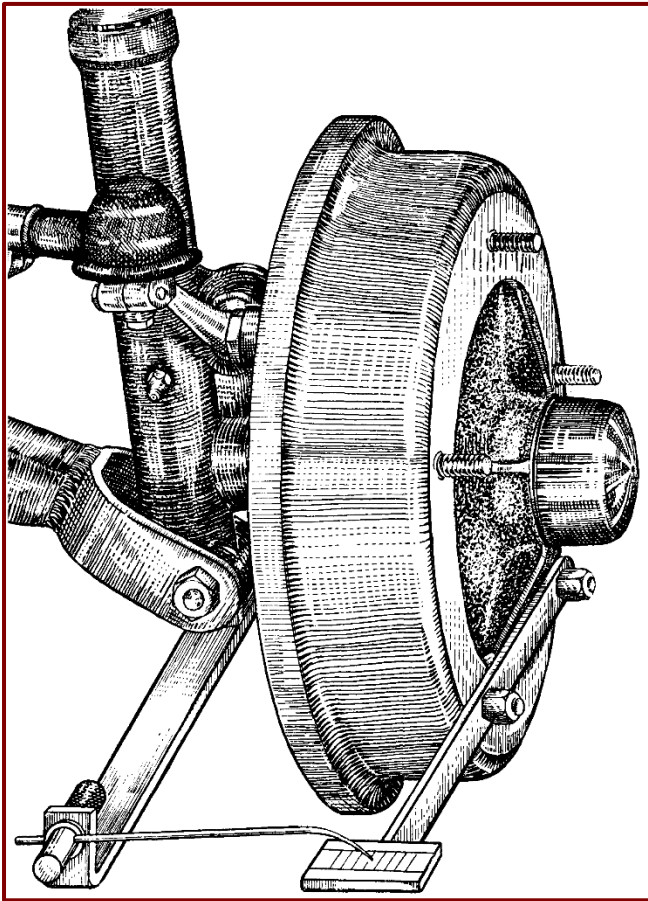

Figure 68. Wheel Track Equipment.
9. Raise the car until the wheels are clear of the ground, and remove the front road wheels. Fit the independent tracking equipment in the following manner (*Figure 68*). Remove the grease nipple from the bottom of the swivel pin boss, and thoroughly clean the boss. Fit the pointer and secure with an ⅛" gas setscrew, (or ¼" B.S.F. with rubber suspension) screwed into the greaser drilling. Care should be taken to avoid distorting the pointer by overtightening the setscrew.